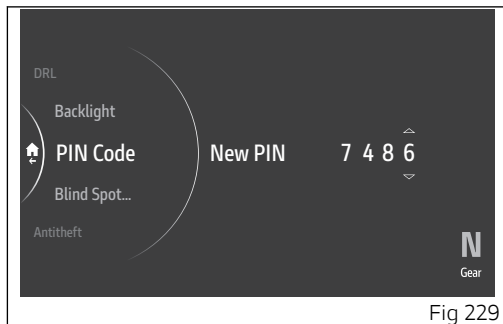

Fig 229
- Repeat the procedure until entering all 4 digits (Fig 229).